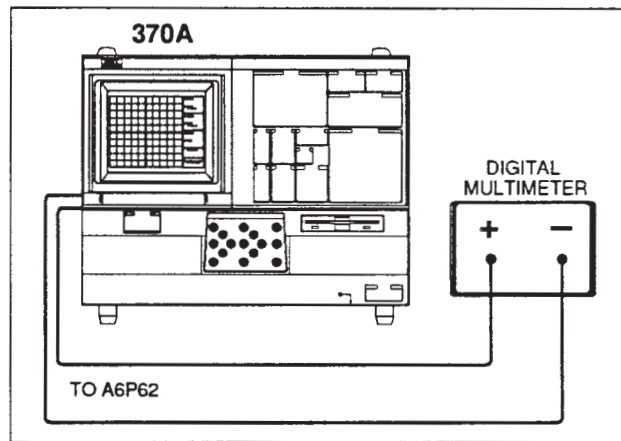

Figure 4-12. Adjusting for Collector Supply Amplifier Offset.
d. Connect the Digital Multimeter test leads to pin 1 and pin 3 of P62 as shown in Figure 4-12. (These are the COLLECT-OUT and ground pins.)